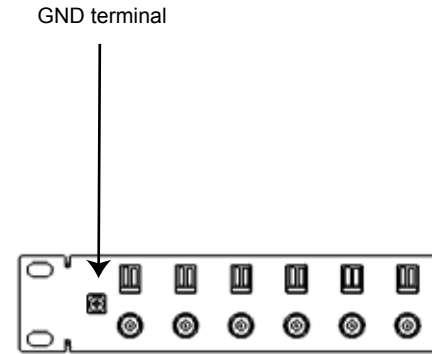

Figure 2.
3. Connect ground wire to the GND terminal and single ground point. (See Figure 2)